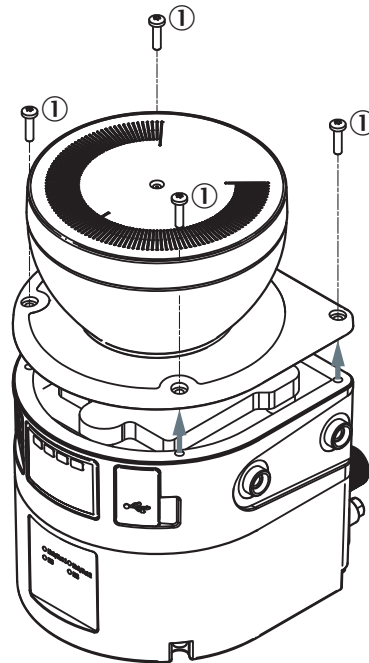

Figure 79: Fixing screws for the optics cover
13. Screw in new fixing screws, see figure 79, page 126.